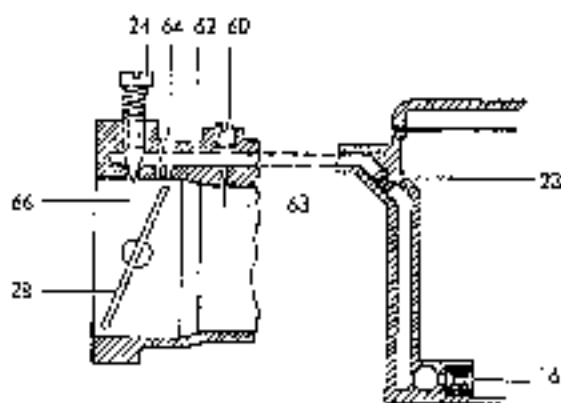

Fig. 07-0/43
When the engine reaches a speed of approx. 3500 rpm under full load, the throttle valve (26) of stage 2 begins to open. The fuel drawn in through the idle fuel jet (23) combines with the air entering through the idle air bore (63) to form a mixture in the idle canal (62). This mixture emerges on the bypass bores (64) as soon as the throttle valve (26) of stage 2 opens. This additional enrichment of the fuel-air mixture prevents a change-over shock when stage 2 is brought into operation [see Figs. 07-0/42 and 07-0/43].